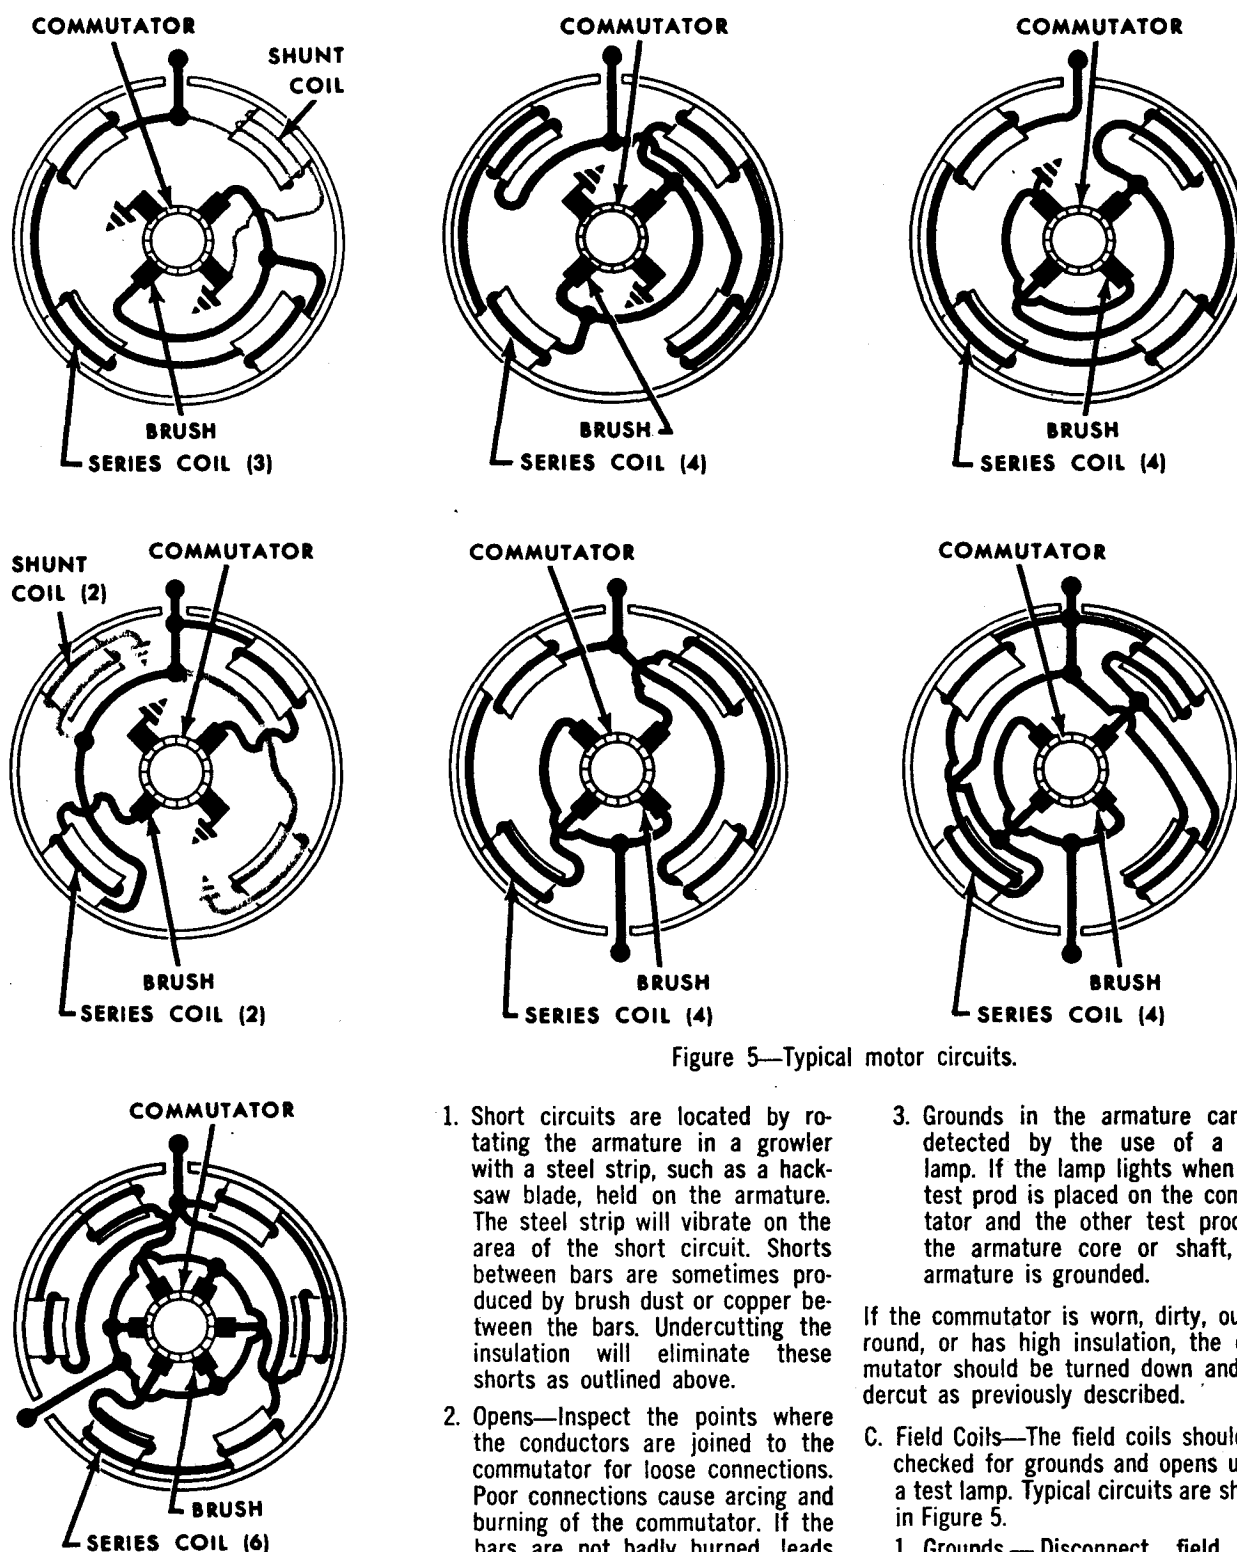

Figure 5—Typical motor circuits.
- C. Field Coils—The field coils should be checked for grounds and opens using a test lamp. Typical circuits are shown in Figure 5.